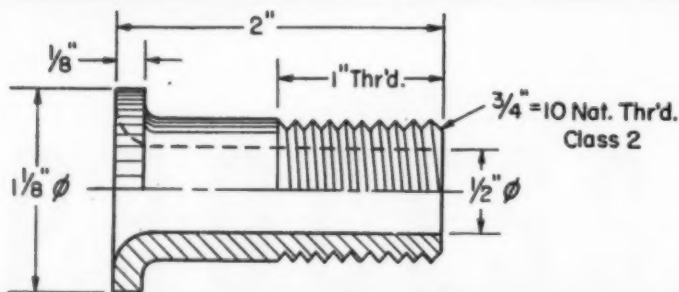

Fig. 4 — Threaded bushing with detailed costs for production by three methods and from three different materials
**Effects of Quantity:** The influence of quantity on selection possibilities is an important consideration in design for economy. The case shown in Fig. 4 gives some indication of how quantity would influence the method of machining a part. Because of tooling and setup costs as well as overhead, quantity is important in determining the most suitable method. Use of high-output machines such as multiple-spindle screw machines also involves the factor of efficiency. It often requires a day or two of production for such a machine to "settle down" and for an operator to get all the tools adjusted properly and become accustomed to particular machining characteristics of the job.
Another factor is apparent from the data in Fig. 4. This is the important effect of materials selection. Machinability of the particular material utilized is important in its effect on both quantity and method.